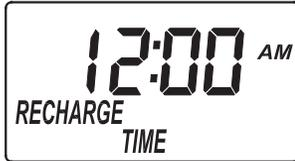

FIG. 19
1. If you completed the previous step, the words "RECHARGE TIME" should show in the display (See Figure 19). Otherwise, press the SELECT button several times until they do.